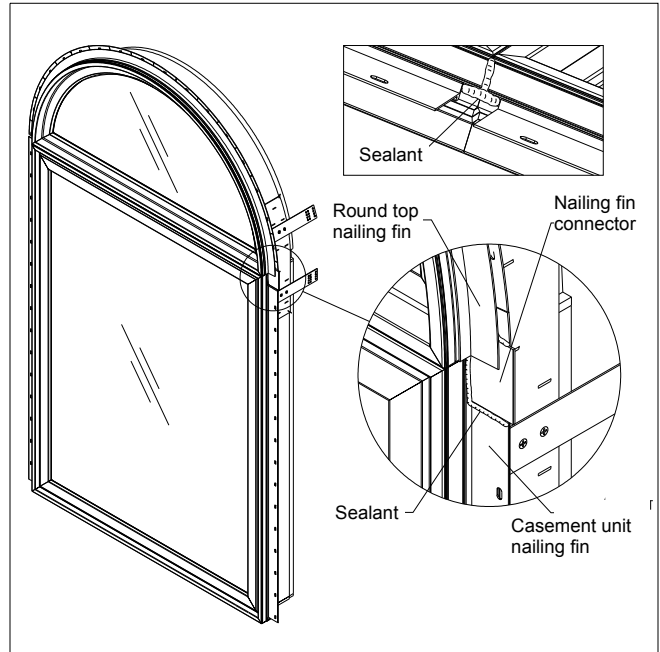

Figure 35
8. Apply silicone sealant at the mullion from the frame exterior edge to the drip cap/nauling fin kerf and across the kerf over the mulling pin. Remove paper backing from nauling fin connectors and press into place as shown in figure 35. Seal around the edge of the connectors as shown.